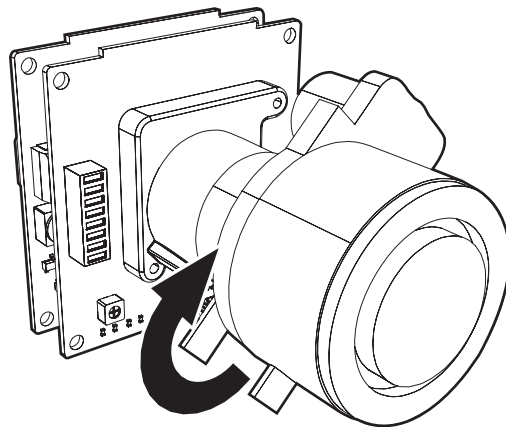

Figure 15. Adjusting the Camera
2. Attach the camera using three spacers and three screws (14 mm). Do not overtighten the screws or the spacers will collapse. The focus knobs need to be positioned as shown in Figure 15.
5. The camera focus and zoom come from the factory with a medium setting. They can be adjusted with the built-in camera located inside the monitor. Refer to Figure 15.